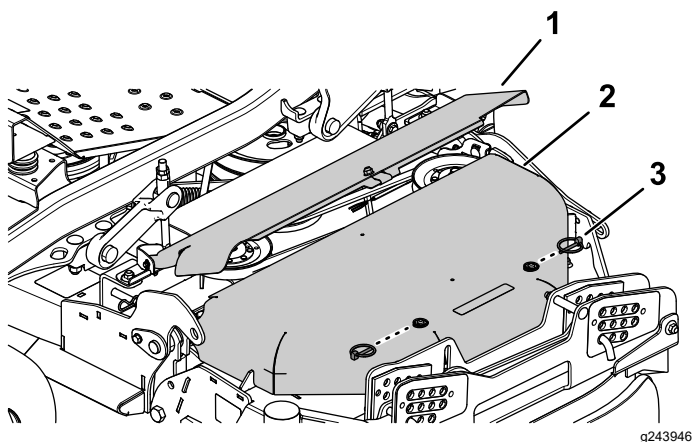

Figure 60
4. Remove the 2 lynch pins from the outer belt cover and remove the outer cover (Figure 60).
5. Rotate the inside belt cover upward (Figure 60).